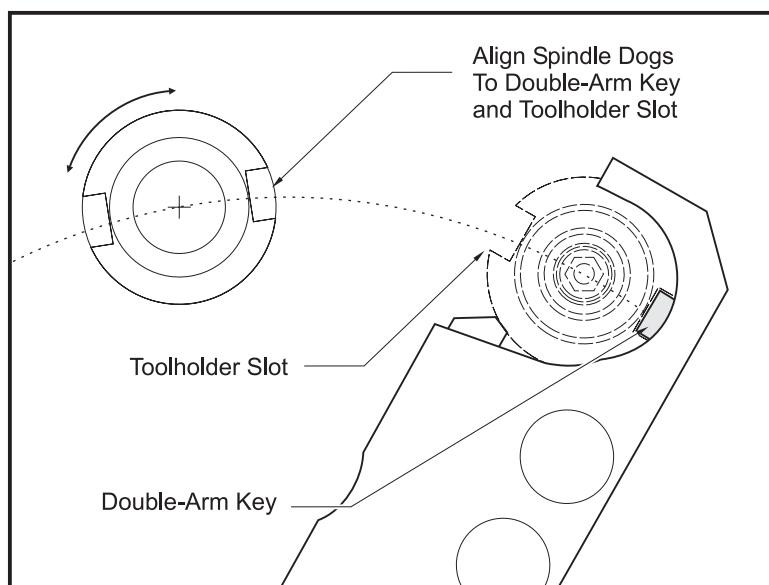

Figure 3-73 Spindle Orientation Setting
3. Enter DEBUG mode. Record the encoder value under "spindle orientation position". Refer to Figure 3-73